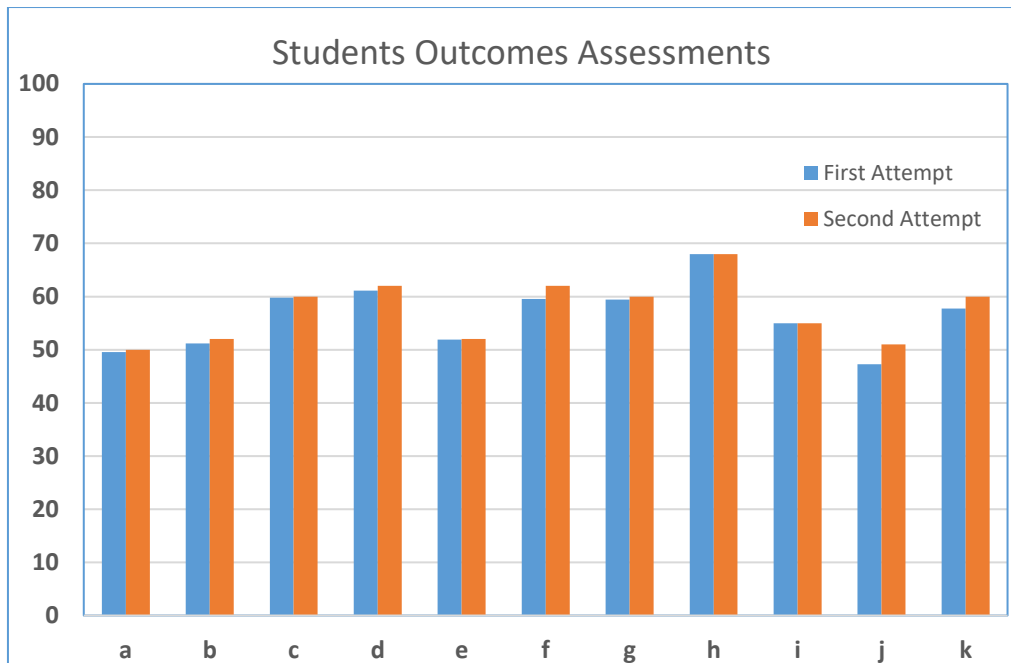

Figure 4.9: Students Outcomes Assessments for Automotive Engineering Program 2016-2017.
- 3- Students Outcomes Assessments for Automotive Engineering Program for the academic year 2016-2017 is shown in Figure 4.9.